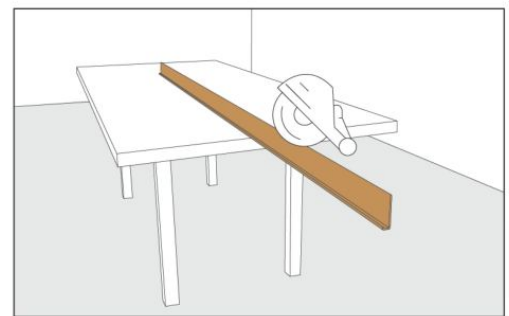

Fig.6
- Transfer this measurement to the starter strip, then cut with a circular saw.(Fig.6)